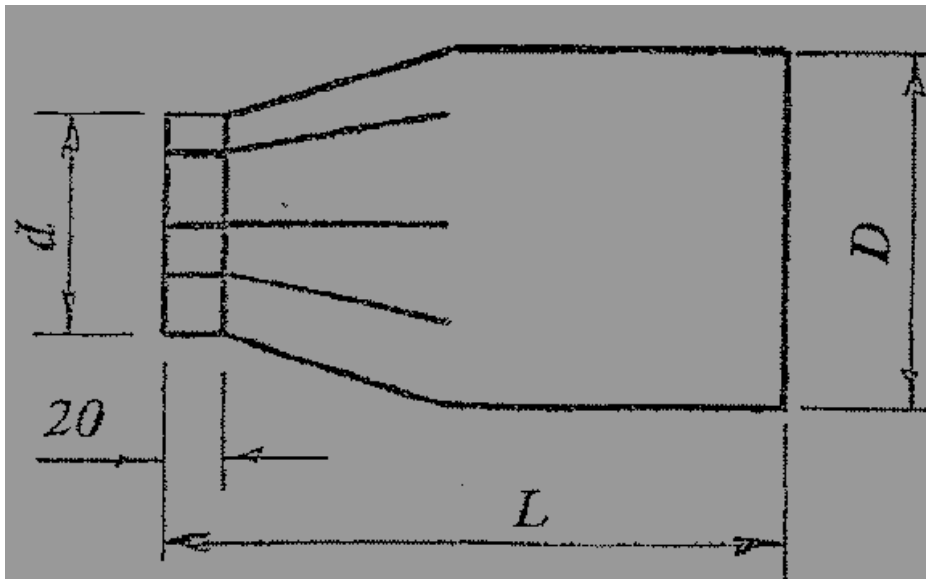

FIGURE 5
4.2 FIGURE 5, DIAGRAM SHEET C (attached), shows a pipe reducer.